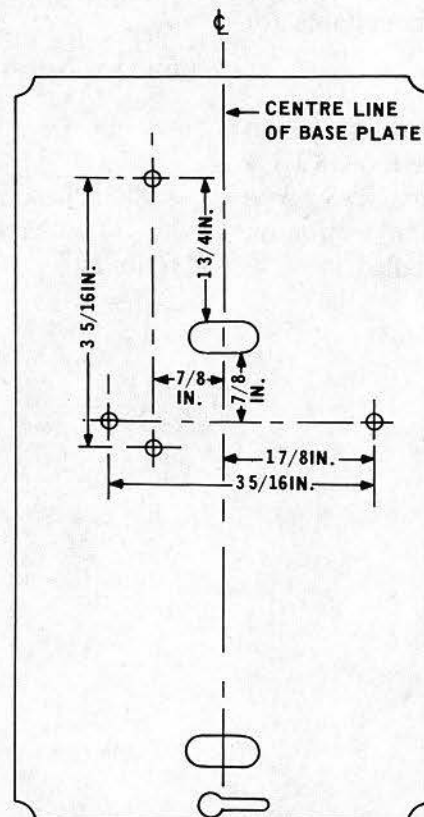

Fig. 14 — Early Production Baseplate (Wall Telephone)
4.03 To modify early production baseplates, drill two holes as shown in Fig. 14 using a No. 17 (0.173 inch) drill bit. If a conduit outlet box is not available, mount the telephone set with screw anchors, using the mounting holes at the top and bottom of the baseplate.